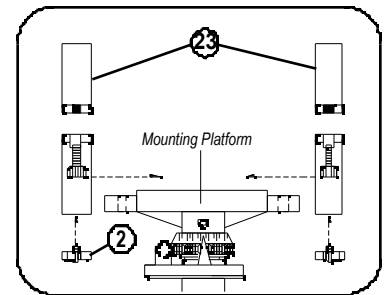
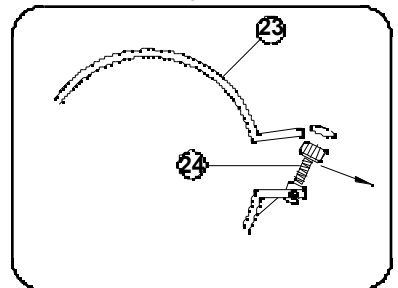
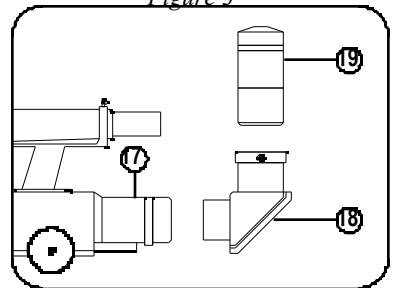

Figure 2.
Figure 3
Figure 4
Locate *Telescope Cradles* (23). Remove *Mounting Screws* (2) and position *Cradles* under mounting platform as shown (fig 2). Now open *Cradle* by unscrewing *Cradle Lock Screws* (22.) (fig. 3.) Position *Main Telescope Tube* (23) into *Cradles*. Tightly secure *Main Telescope Tube* in place using *Cradle Lock Screws*.
- Locate *Fine Adjustment Cables* (5). Attach *Cables* to the silver posts just under the *Right Ascension Axis* (15) and the *Declination Axis* (3). Secure cables “finger-tight” using set screw located on the end of each *Fine Adjustment Cable*.
- Locate *Counterweight* (6) and *Counterweight Shaft* (7). Slide *Counterweight* onto the *Counterweight Shaft* and tighten thumb screw to secure. Thread *Counterweight Shaft* into the hole on the bottom of the declination column of the mount. Make sure that the shaft is securely locked into the mount.
- Locate *1.25” Format Eyepiece* (19) and *Diagonal Mirror* (18). Carefully place *Eyepiece* into *Diagonal Mirror* as shown (fig 4.). Next, insert *Eyepiece* and *Diagonal Mirror* into *Focusing Draw Tube* (17).